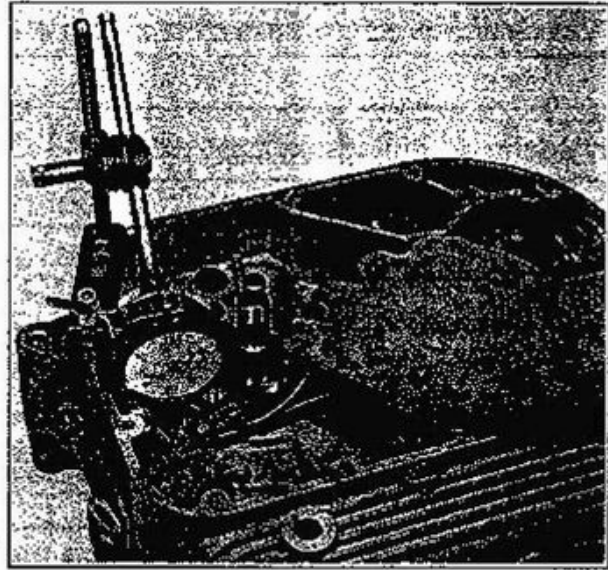

Figure 4D-39. Determining Shifter Cam End Play
gears disengaged), check to see that there is equal clearance between driving lugs of 1972 and earlier shifter clutch (21) and adjacent gears (Figure 4D-37) or between countershaft third gear and adjacent gears on 1973 and later models (Figure 4D-36A). Use thicker or thinner spacing washer (13) to obtain equal spacing. See spacer washer size chart. Also check clearances between driving lugs of remaining engaging gears to see that there is adequate clearance. Usually trouble in this area is caused by bent or excessively worn shifter forks which must be replaced.